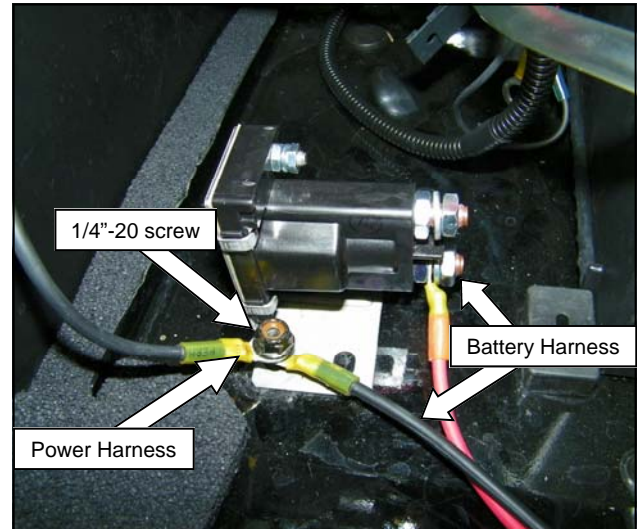

Fig. 6
- Position solenoid near the battery, see figure 6. Remove rubber plug from frame of vehicle. Use this hole for mounting solenoid. Attach 10 Ga. Red wire from battery wire harness to R2 post on the solenoid and the other end to the positive (+) terminal on the battery. Attach 10 Ga. Black wire from same harness to solenoid with 1/4"-20 x 1" long hex head cap screw and fasten other end to the negative (-) terminal on the battery as shown in figure 6.